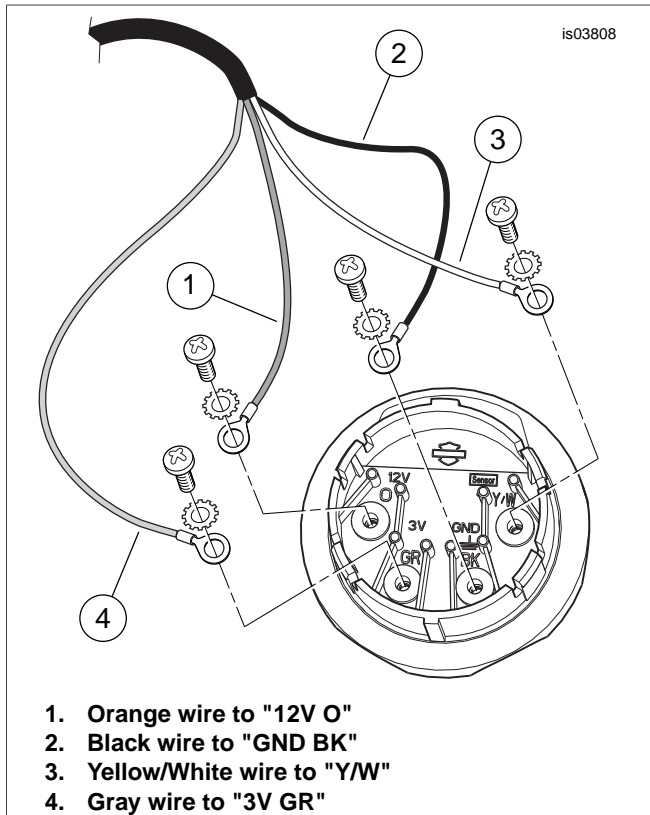

Figure 1. Wire Connections, Kits 75087-04, 75091-04
- Four Phillips-head screws (11) and four star washers (12) come pre-assembled to the connections on the underside of the gauge. Remove the screws and washers to connect the wires as follows:
See Figure 1. Fasten the Orange wire (1) ring terminal to the gauge connection marked "12V" and "O" with a screw and washer.